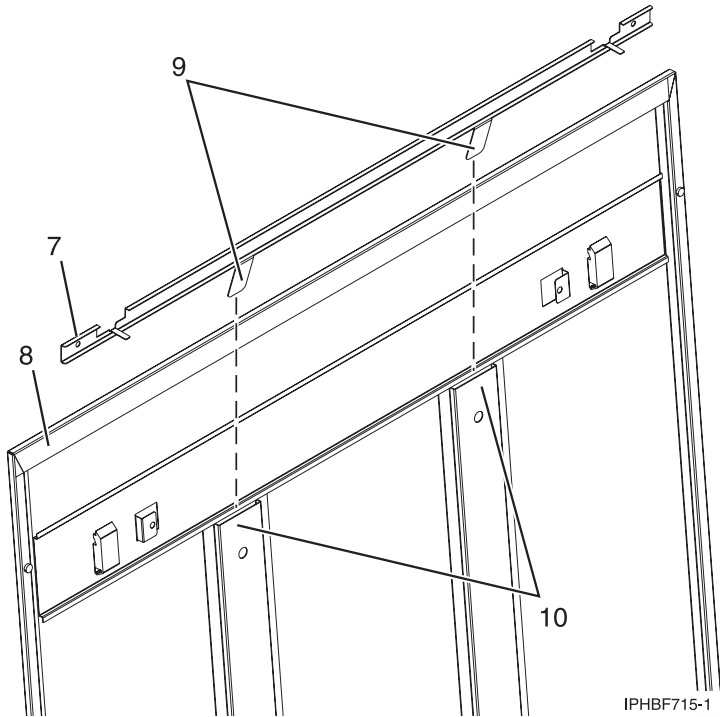

Figure 58. Installing a security slide bar.
- b. With the flat side of the slide bar rail 7 in Figure 58, facing the inside of the cover panel 8, insert the two tabs 9, on the slide bar rail into the two vertical support channels 10 on the side cover panel.